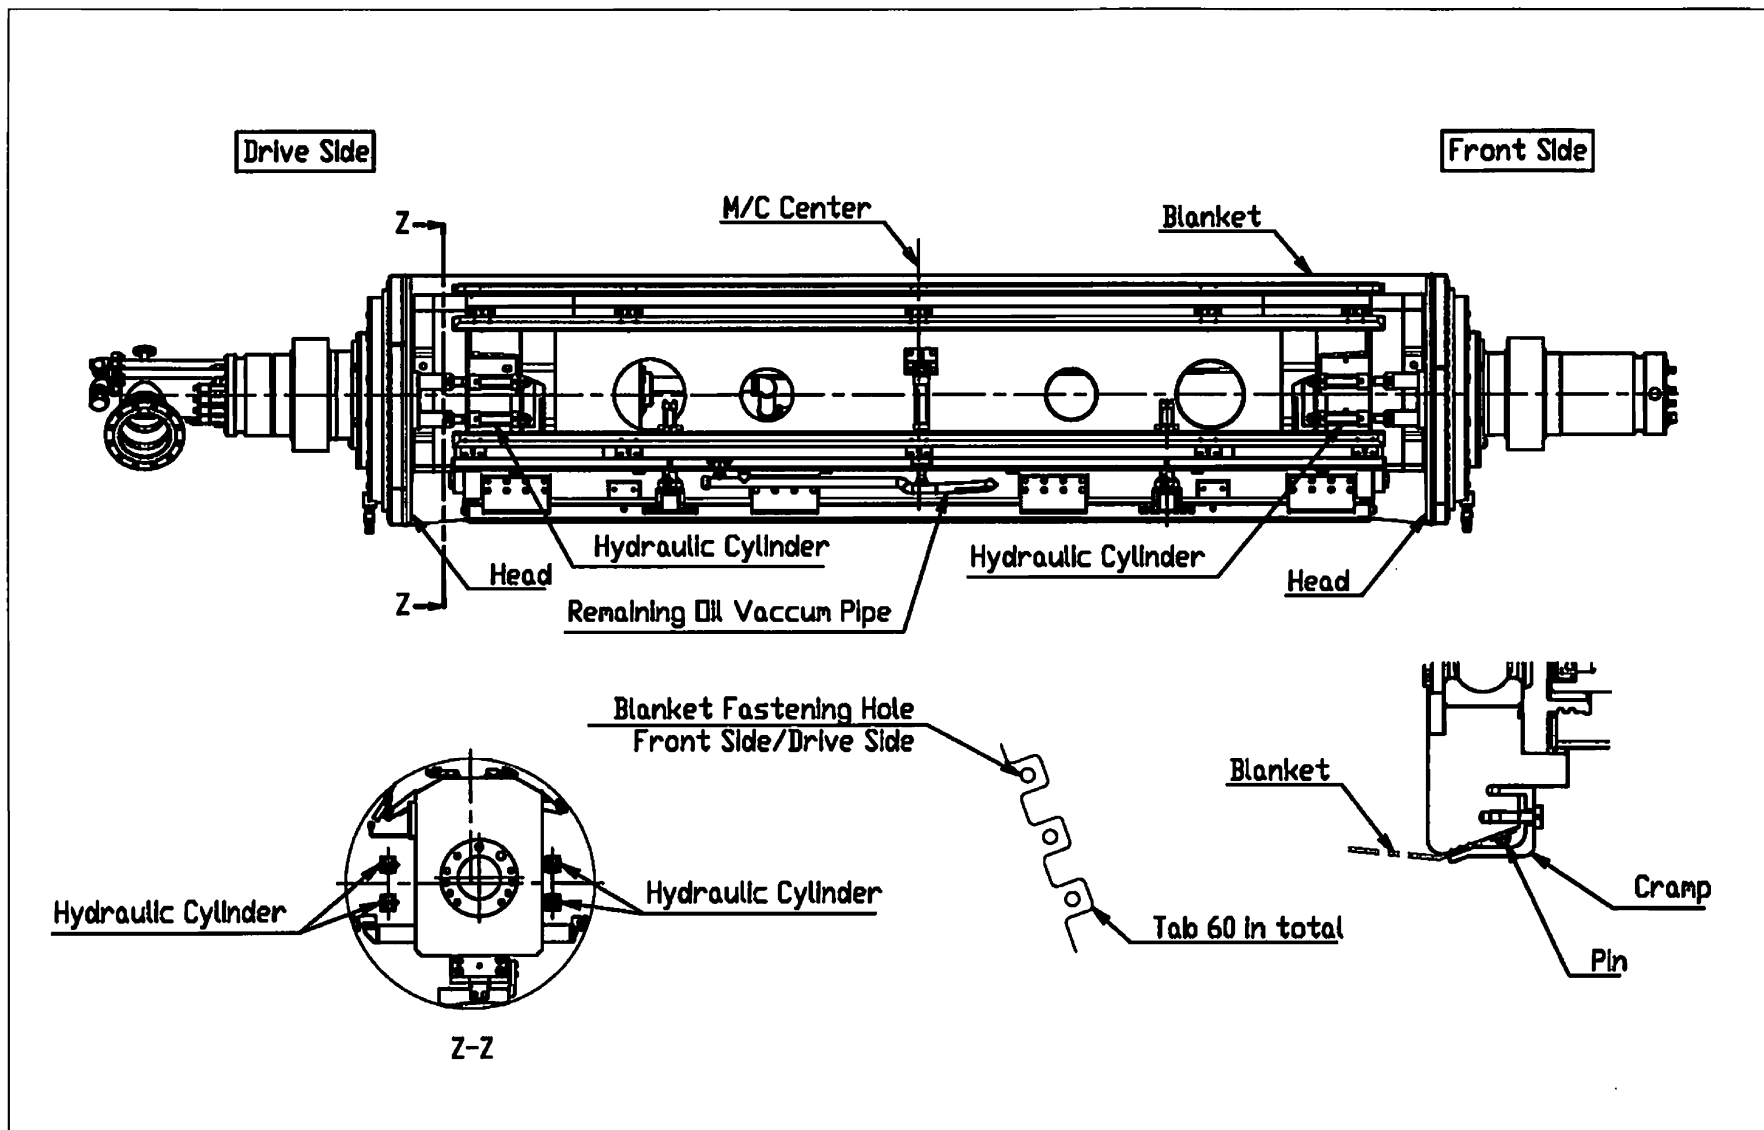

Fig 3-6 MH Shoe Press Inside Details
**NOTE** Please refer to Fig 3-6.